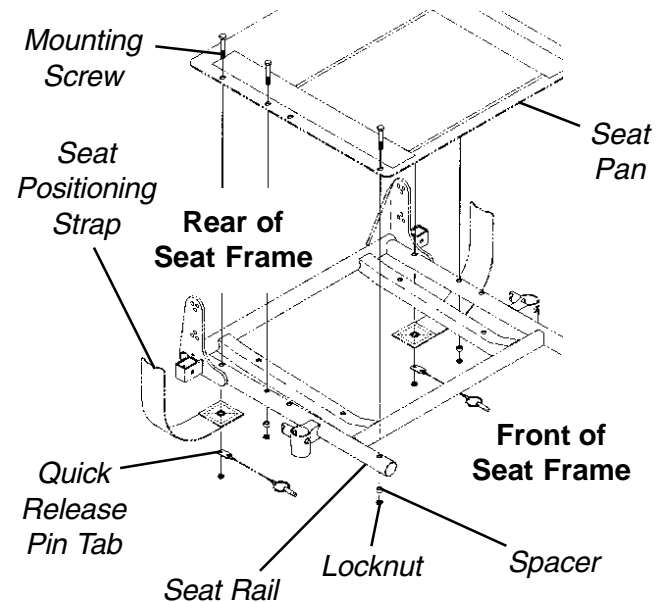

FIGURE 2 - REPLACING SEAT POSITIONING STRAP
**Adjustable Seat Back Angle Model (FIGURE 2)**
3. Remove the two (2) mounting screws, quick release pin tabs, spacers, and locknuts that secure the seat pan and seat positioning straps to the seat frame.
4. Remove the two (2) halves of the seat positioning strap from the rear seat frame.
5. Reposition the two (2) NEW seat positioning strap halves underneath seat rails.
6. Reinstall the two (2) mounting screws, quick release pin tabs, spacers, and locknuts that secure the seat pan and seat positioning straps to the seat frame and torque to 75-inch pounds.